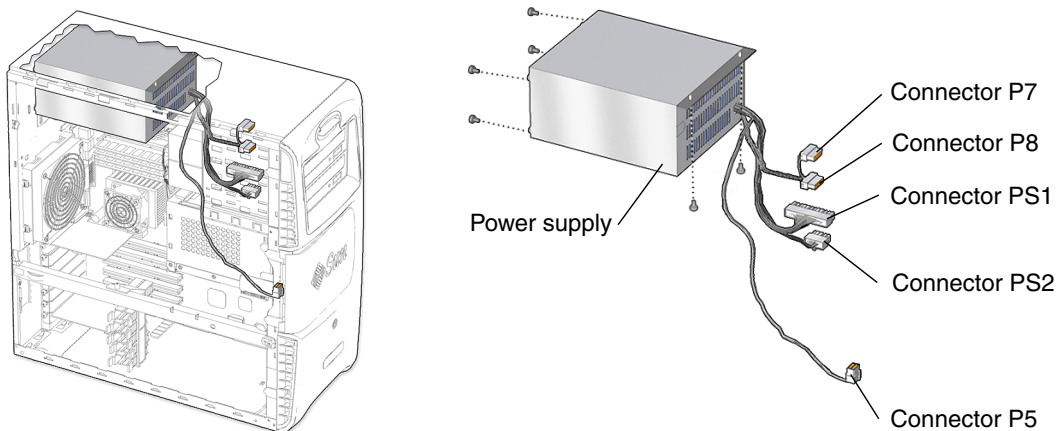

FIGURE 13-1 Power Supply Location and Identification
A 475W power supply is required for workstation operation (FIGURE 13-1). Power is supplied from the power supply to connectors P5, P7, P8, P9, PS1, and PS2.
2. Locate the power supply (FIGURE 13-1).